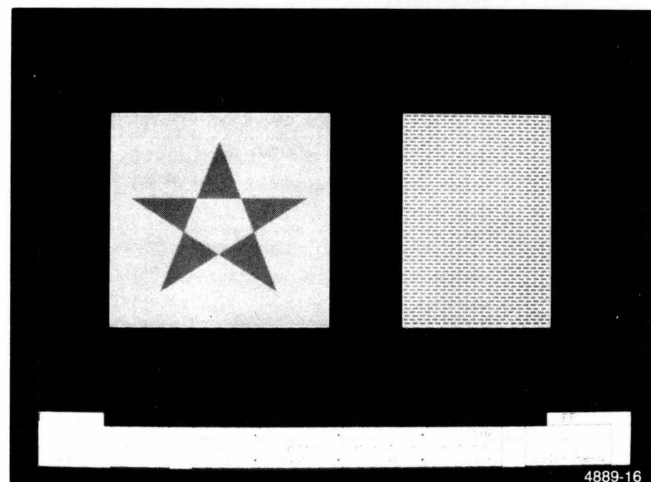

Figure 3-11. Color Interface Banner.
2. There is a crosshair cursor centered at the bottom left of the screen. Now take a few moments to examine the white banner at the bottom of the screen (Figure 3-11). The left part of the banner indicates that the cursor is in the *dialog* area. It also displays a small square of the color under the color index (1).